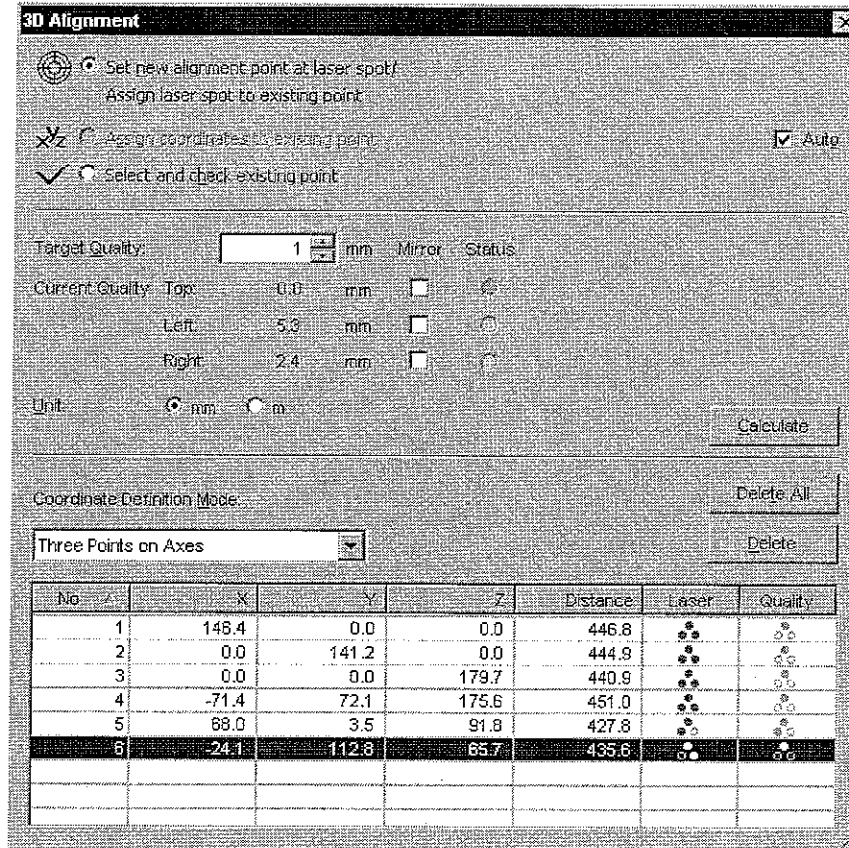

Figure 4.17: Successful 3D Alignment
11. Click Calculate. The software will calculate all the coordinates of the alignment points and enter them in the list. At the same time it determines the position of the scanning heads in this coordinate system, refer to figure 4.17.